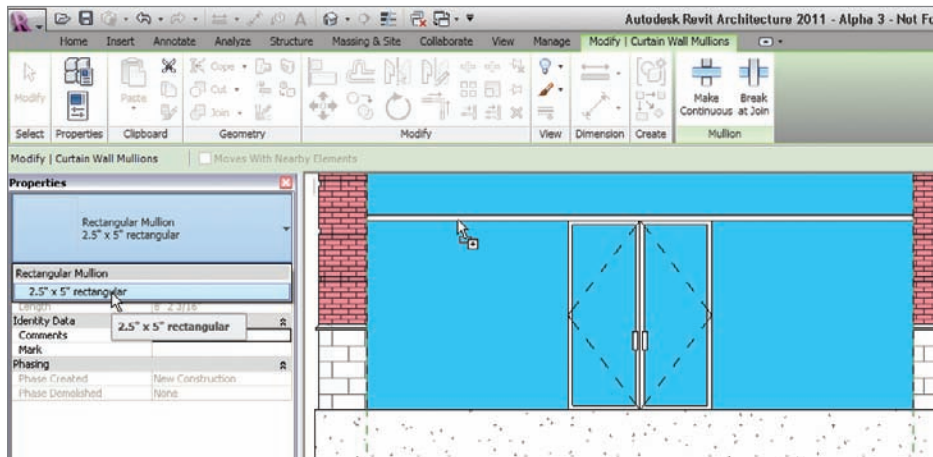

FIGURE 16.36 Place the 2.5" × 5" rectangular mullion above the door.
3. Pick the grid above the door, as shown in Figure 16.36.